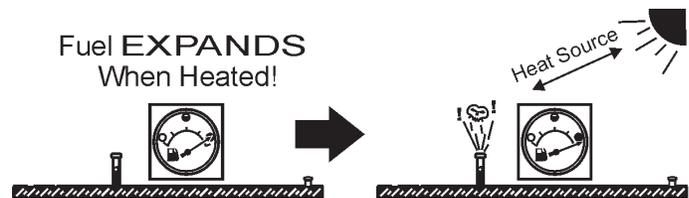

Figure 17. Fuel Expansion
**DO NOT OVER-FILL** fuel system. Leave room for fuel expansion. Fuel expands when heated (Figure 17).